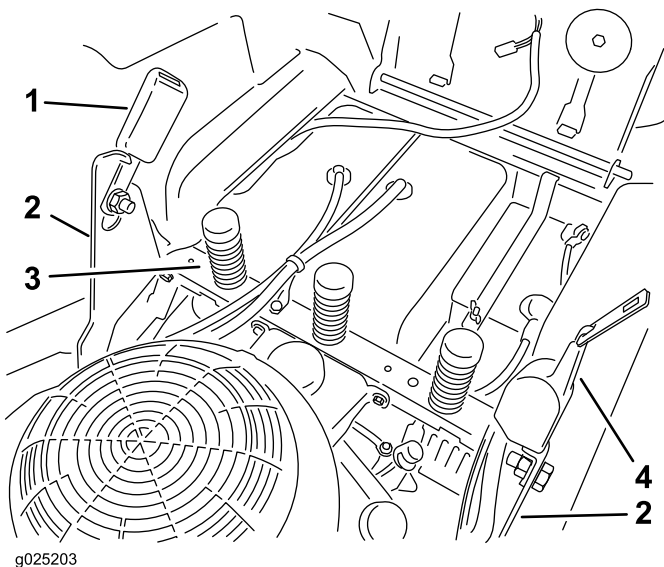

Figure 2
- Remove the 3 springs from the machine frame (Figure 2).
- Remove the existing seat-belt receiver and retractor from the brackets (Figure 2).